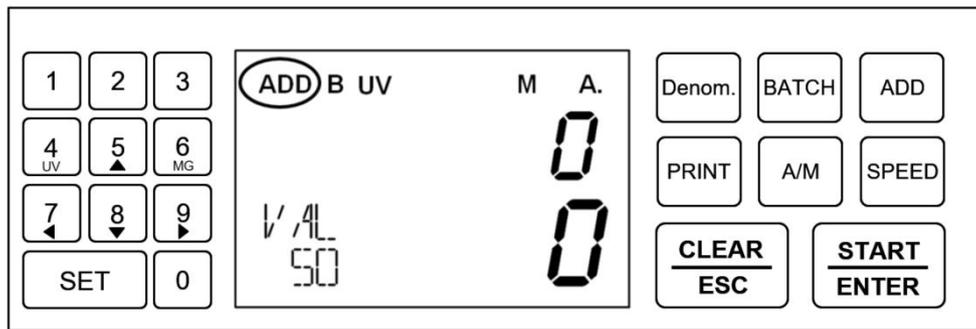

Figure 42
1) You can only view the counting details of multiple denominations after counting when the ADD accumulative function is turned on. Therefore, please first press the "ADD" button on the right side, and the "ADD" character will appear in the upper left corner of the display to indicate that the accumulative function is on, as shown in Figure 42 below.